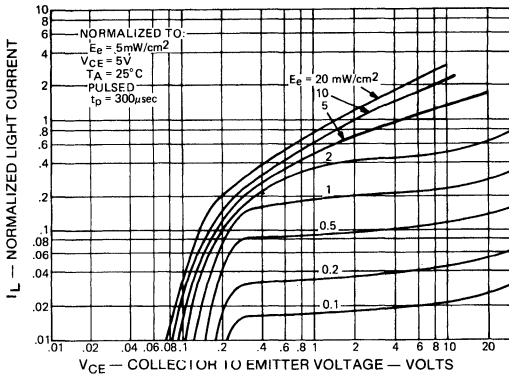
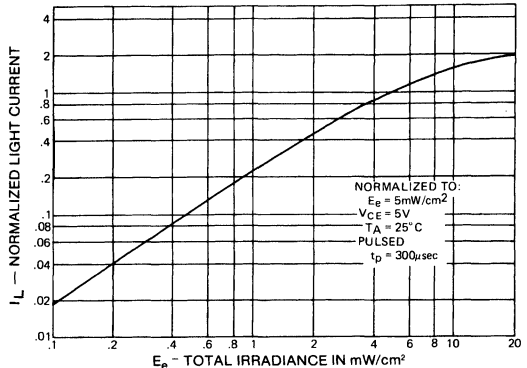

Fig. 1. Light Current vs. Collector to Emitter Voltage ST1092
Fig. 2. Light Current vs. Radiation ST1097
8. Figure 1 and figure 2 use light source of tungsten lamp at 2870°K color temperature. A GaAs source of 3.0 mW/cm² is approximately equivalent to a tungsten source, at 2870°K, of 10 mW/cm².